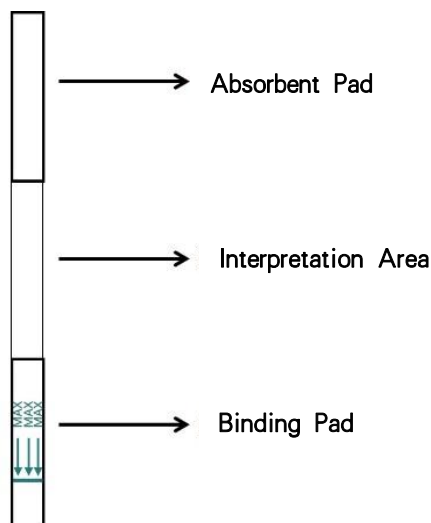

Figure 1 Schematic diagram of the structure of a disposable nucleic acid detection test strip
1. Take out the corresponding number of test strips according to the number of test samples, and mark them on the absorbent pad (Figure 1). Each test strip can only be used for an one-time single sample test. When the volume of the amplification product is between 50-100μL, the nucleic acid product can be detected directly in the 200μL PCR reaction tube. When the amplification product is less than 50μL, it is necessary to add ultrapure water to the PCR tube to make up the volume to 50μL, and the detection can only be performed after mixing by pipetting.
2. After PCR, RPA or RAA products are added to the CRISPR system, open the PCR reaction tube and insert the binding pad end (arrow end) of the test strip into the PCR reaction tube (Figure 1). The liquid level must not exceed the top of the binding pad. After the reading area is fully saturated (about 1-2 minutes, when the external environment temperature is low, such as winter, the water absorption speed will be reduced, and the saturation time of the reading area will be prolonged), and after the color of the quality control line (C line) emerges, take